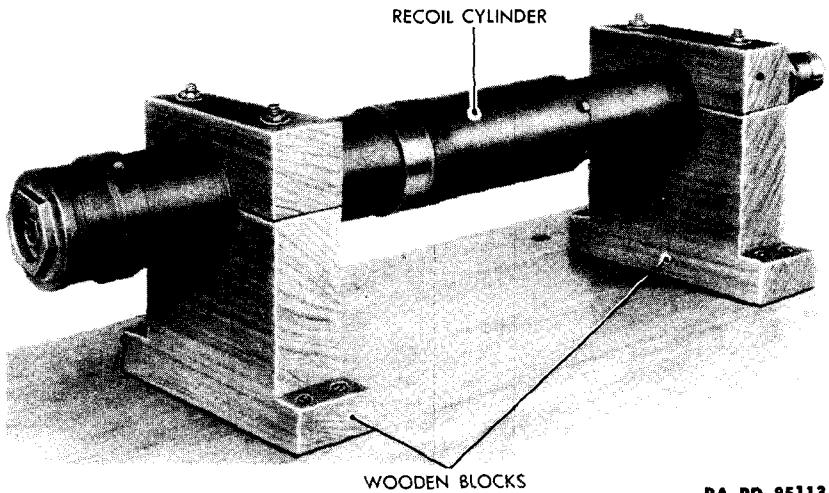

Figure 70 – Suggested Method of Mounting Recoil Cylinder for Repair
(1) Place recoil cylinder in wood blocks (fig. 70) or use any other suitable blocking arrangement which may be constructed with material that is available. The blocks suggested for use can be made from any available pieces of lumber that are large enough for this purpose. They may be fastened to any wooden base by means of wood screws and may be bolted together. It is necessary that the semicircular groove that is cut into them be a little smaller than the diameter of the recoil cylinder so that a tight fit may be had when the blocks are fastened together. If the recoil cylinder should slip in these blocks when attempting to remove buffer, place a piece of emery paper between the groove in the wood and the recoil cylinder.